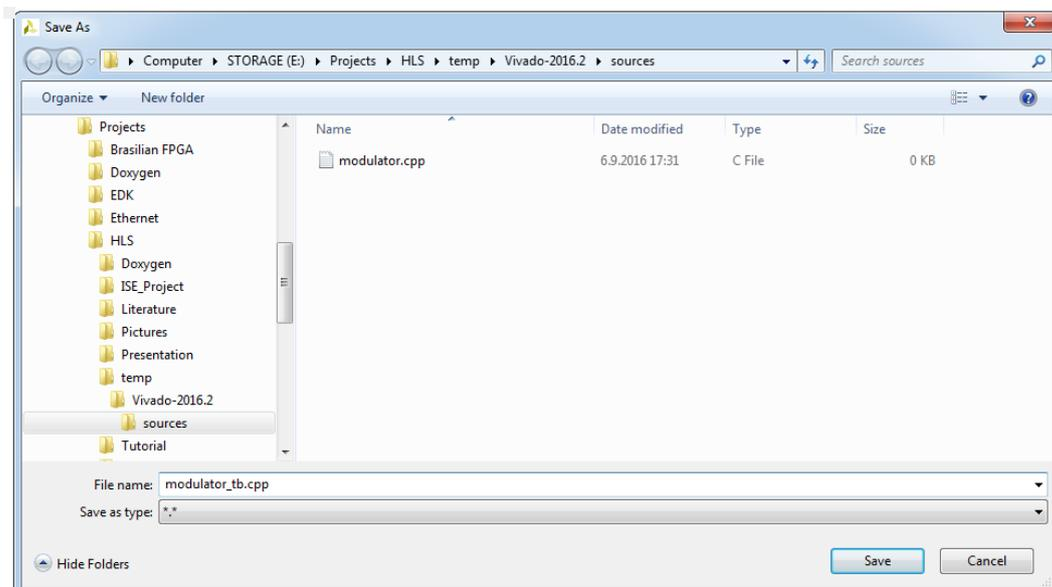

Figure 2.7: Save As dialog box with testbench file
- Click **New File...** button and in the **Save As** dialog box specify **modulator_tb.cpp** as a new testbench file name in the **File name** field and click **Save**, see Figure 2.7